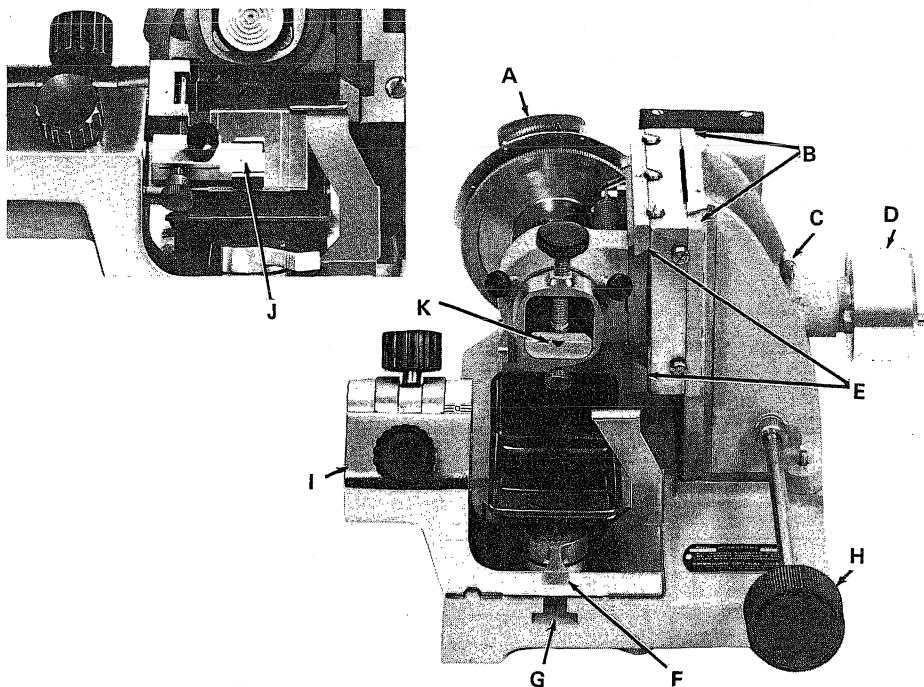
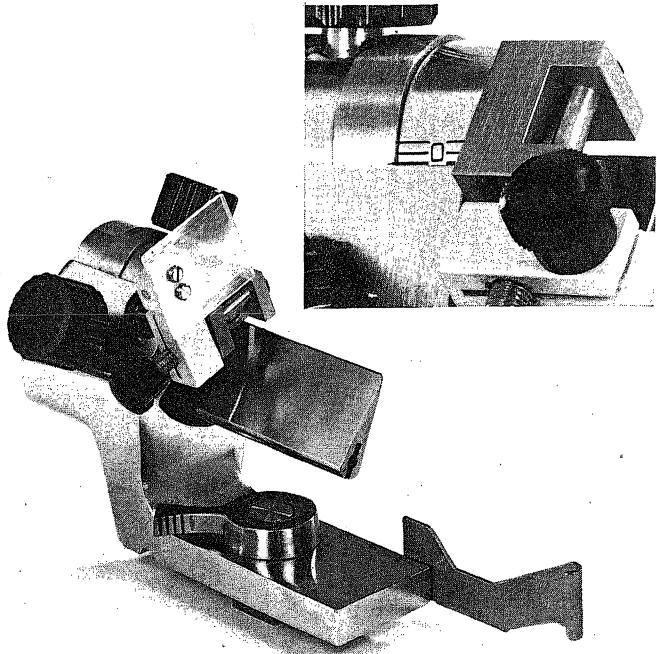
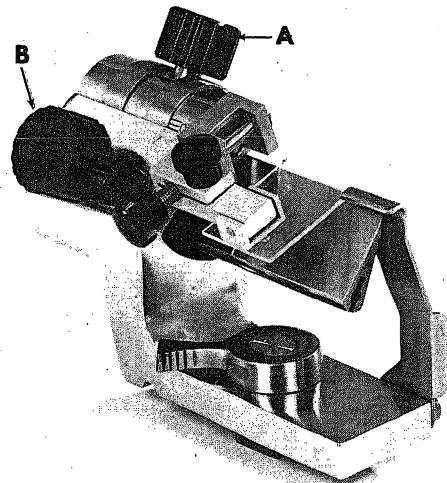

Figure 6
Figure 10
Figure 11
2. Lubricate the vertical and horizontal slideways of the microtome (see Figure 6) with the special lubricant provided.
The knife holder has been designed specifically for HISTOSTAT Microtome work. Three simple controls make it extremely easy to use. The knife is held rigidly at only one end to greatly facilitate removal of cut section on the microscope slide. The holder slides forward and back in the slot G shown in Figure 6, and should be locked into position with lever F, flush with the front edge of the base or not further than 1/4 inch in from the edge. The knife guard as shown in Figure 10, swings out of the way for removing or installing the knife. When the knife is installed, the knife guard should be swung up into the position as shown in Figure 11, to shield the corner of the knife.
The operator should become familiar with properly inserting the knife in the holder, by removing the holder from the microtome and examining the internal locking mechanism. Refer to Figure 11. When knob A is turned, the knife is drawn up by an internal U-shaped piece called a "clevis", and wedged into the opening to hold the knife securely. When knob A is released, and tapped downward, the clevis lowers and the knife is released, permitting withdrawal. When inserting the knife, care must be taken to prevent tilting the corner of the knife upward to hit the screw which engages the clevis from knob A. When the knife is inserted straight, ample clearance is provided.
As one end of the knife becomes dull, it can be reversed 180° to use the other half. Knife angle is accomplished by releasing knob B shown in Figure 11. An arbitrary scale of 5° increments is provided to show the degree of tilt. Position 0 (second line from the top) will give the following knife clearance angles with an AO Reichert 942 knife.
For the average knife and specimen, a setting to the line below 0 (third from the top) is recommended. Refer to inset, Figure 10.
The clearance between the knife and guide should be set to approximately 30° , Figure 11.